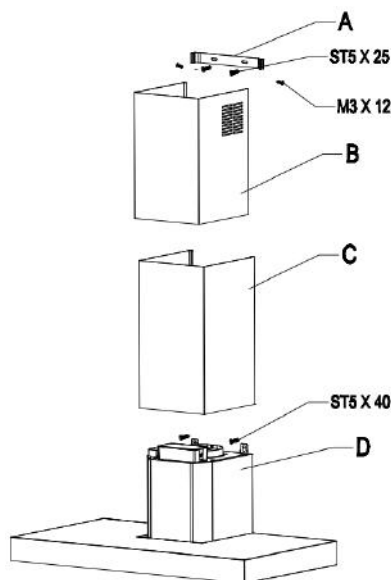

Fig. 8
- Fix the inner duct to both mounting bracket using 2(two) M3 x 12 screws provided (Fig. 8).